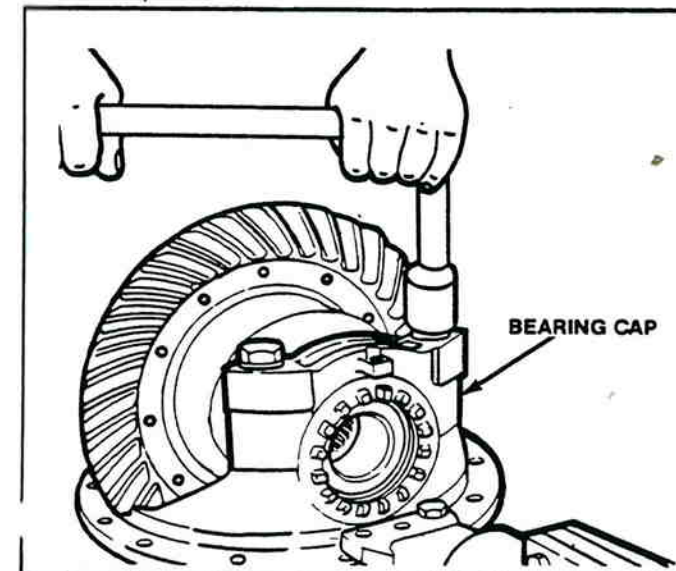

Figure 2-14. Removal of Bearing Cap Capscrews.
6. Remove the capscrews and washers that hold the two bearing caps on the carrier. Each cap is held in position by two capscrews and washers (Figure 2-14).